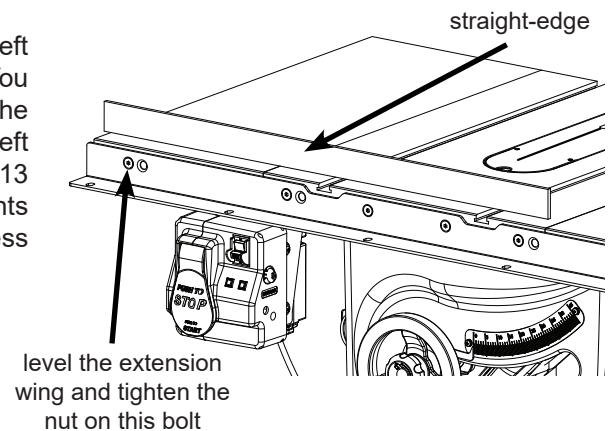

Fig. 5
5. Use a straight-edge to level the front edge of the left extension wing to the cast iron table top (see Fig. 5). You may have to pull up or push down on the outer edge of the extension wing to level it. Once the front edge of the left extension wing is level, use a 5 mm hex wrench and a 13 mm wrench to fully tighten the nut on the bolt that mounts the left extension wing to the front rail. Repeat this process to level the front edge of the right extension wing.